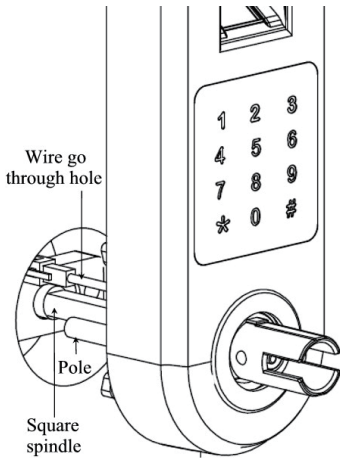

fig. 2
2. Drill holes on door (see fig. 2, and 3), dimension 8 mm hole is optional.
- 1.2 Install the outside chassis unit (see fig. 2). Slide wire through hole on door. Slide square spindle and poles smoothly through holes in latch. Take care to keep outside chassis vertically aligned during installation. Check latch setting and door dimensions if there is any problem.